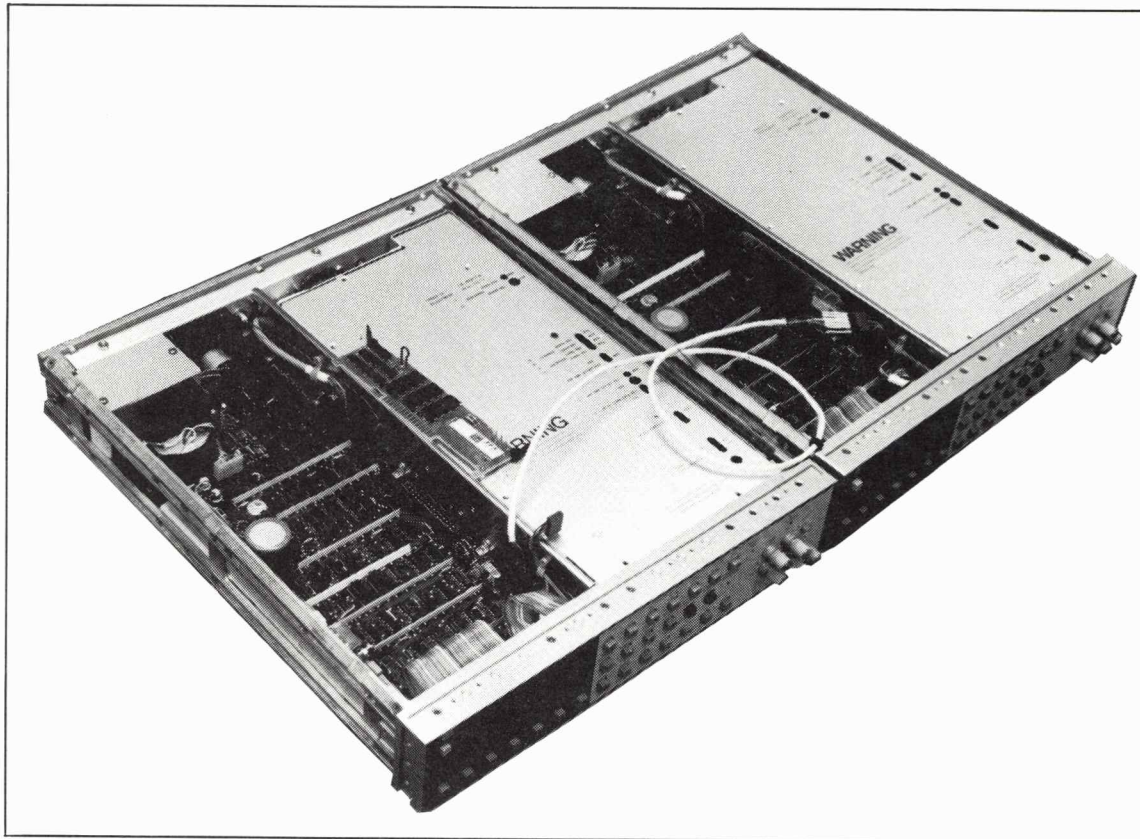

Figure 8-45. Inguard-Outguard Connections.
2. Plug the Inguard/Outguard Service Cable from one instrument's outguard connector (A1J7) to the other instrument's Inguard/Outguard cable assembly (W1). The instruments are now effectively half-split with one unit's inguard section connected to the other unit's outguard section (see Figure 8-45)
8-A-4. Assuming that the power supplies of the 3455A are good, the Instrument Half Splitting Technique (paragraph 8-176) should be the first step in isolating turn-on failures. Either the inguard or the outguard section could hang up the 3455A's turn-on sequence. The front panel indication does not tell where the fault is located. Therefore, the Half-Splitting Technique should be used to isolate the fault between inguard or outguard section of the 3455A. If an extra 3455A and an In-guard/Outguard Service Cable is not available, the method described in Figure 8-45 may be used. When it is determined which section of the 3455A is at fault, go to the appropriate troubleshooting section in this service group (see paragraph 8-198 and Table 8-3).